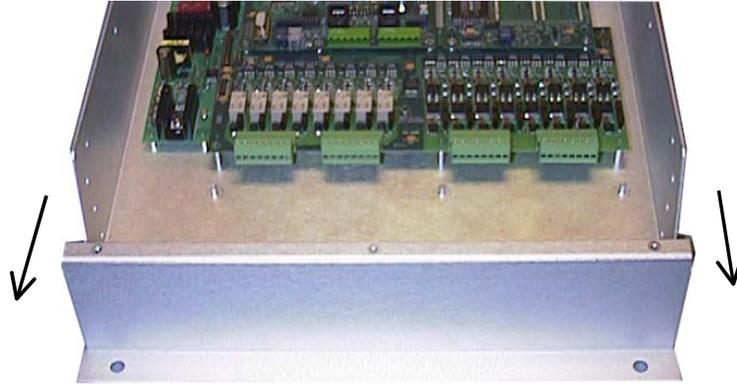

Figure 6: Removal of bottom access plate
- E. Remove the **BOTTOM** access plate from the main enclosure as seen in Figure 6, and put aside temporarily.